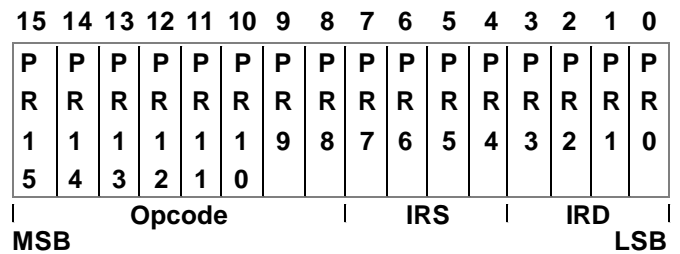

Figure 22. Program Register (PR)
The Program Register holds the present MIL-STD-1750A instruction. Figure 22 shows the configuration of the Program Register (PR).